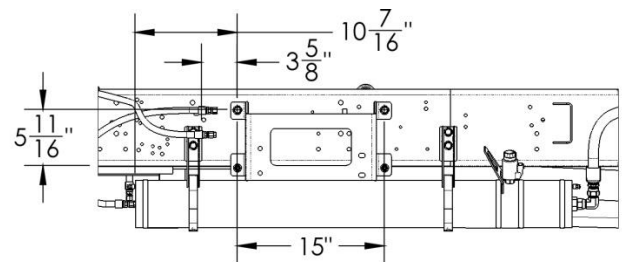

Figure 28. Suggested Power Module Mount Location.
4. Using the bracket, locate and mark the center of the top two mount holes. Refer to Figure 28 for location of the mount.